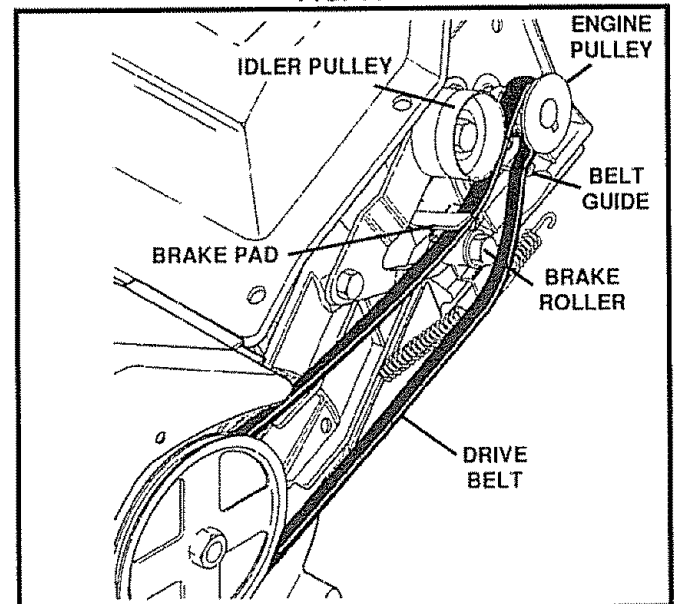

FIG. 12
- Move belt guide away from belt (See Fig. 12).